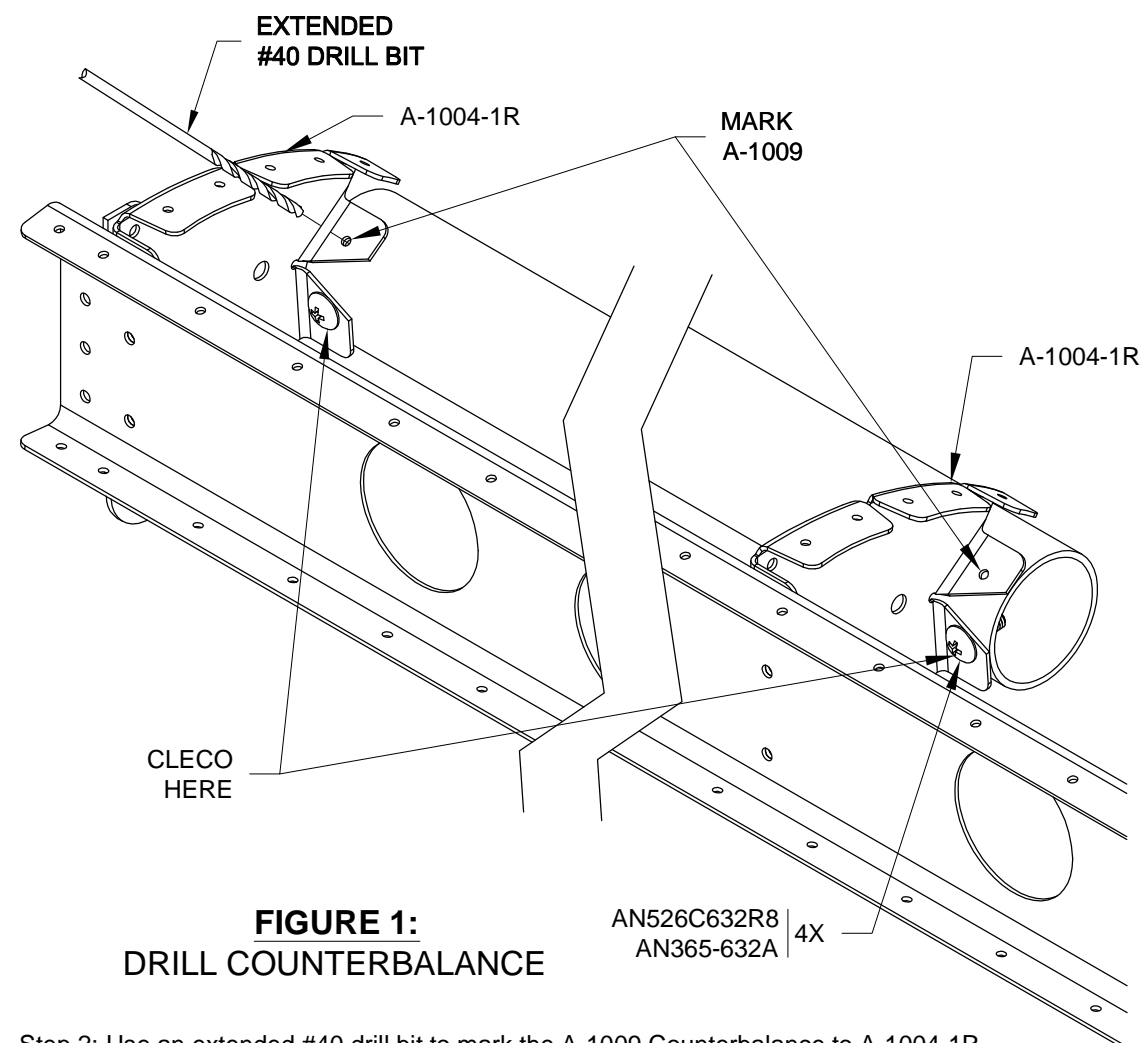

FIGURE 1:
Step 3: Cleco the A-1001A-1L Nose Skin to the lower flange of the A-1003-1L Spar at every third hole. Lay the A-1009 Counterbalance into the nose skin so that it is flush with the outboard edge of the nose skin. Cleco the nose skin to the top flange of the spar at every third hole applying downward pressure on the nose skin if/as required to insert the clecos. Cleco the nose skin to the A-1004-1R Nose Ribs and to the A-1015-1L Inboard Nose Rib as shown in Figure 1. Place the assembly leading edge up onto a narrow table or blocks as shown in Figure 2.
Step 1: Cleco the A-1009 Counterbalance to the A-1004-1R Nose Ribs as shown in Figure 1.
Step 2: Use an extended #40 drill bit to mark the A-1009 Counterbalance to A-1004-1R Nose Rib attach holes on the spar by leaning the drill in alongside the rib as shown in Figure 1.
Attach the counter balance to the nose ribs using the hardware called out in Figure 1. If you have difficulty getting a screwdriver on the head of the screw use an offset screwdriver or a Phillips bit tip held in Vise-Grip pliers at 90°.